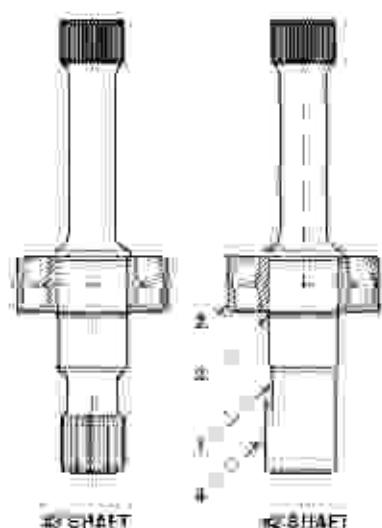

Figure 2
PARTS LIST FOR FIGURE 2
See figure 2. Position the cradle (18) on a clean surface with the large flat side down.